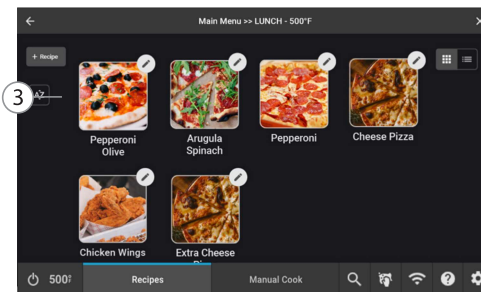

Figure 25: Add/Create Recipe
- Touch the “+Recipe” button (Figure 25, above).